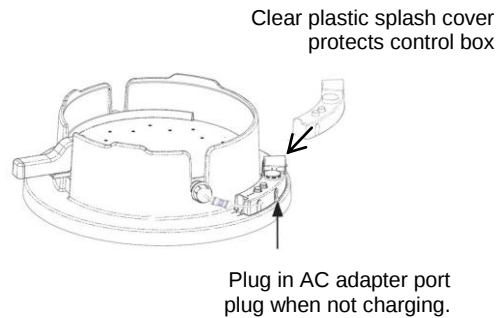

Figure 3
In order to ensure proper functioning and long life, the *FlatwareSaver* control box must be protected from water and other liquids. A protective plastic splash cover (Fig. 3) is provided to aid in this. If your splash cover is unavailable, plastic wrap or another clear plastic product may be used for protection. (NOTE: The splash cover has a built-in "dimple" which allows the RESET button to be easily pressed).
1. be sure the AC adapter port plug is properly inserted (see Figure 3), and